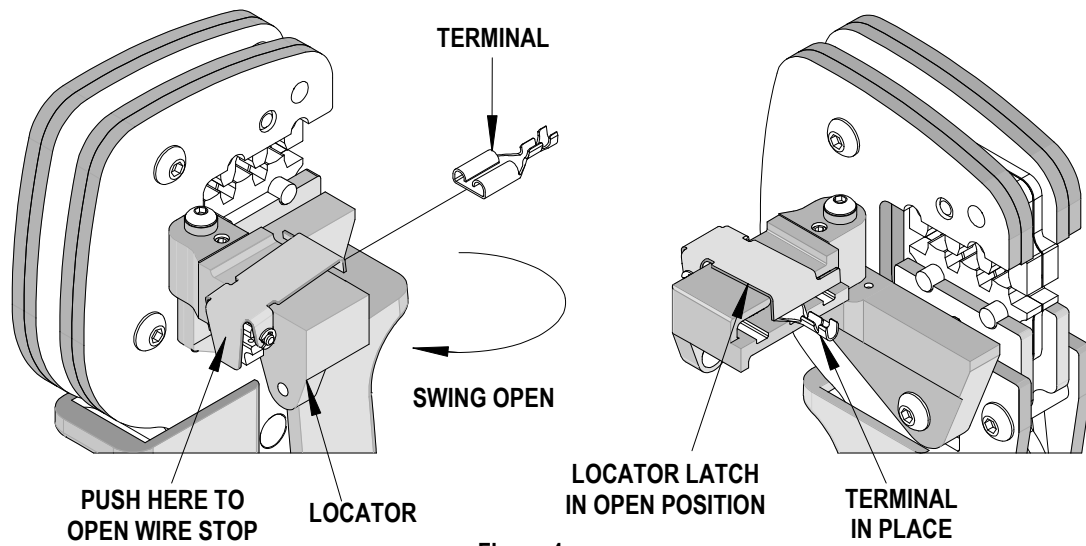

Figure 4
3. Swing the terminal locator away from the crimp tool shown in Figure 4. Some terminals with large insulation grips may interfere with the crimp tooling when swinging the locator into position. The terminal must then be loaded into the locator in the closed/crimp position. See Figure 5.